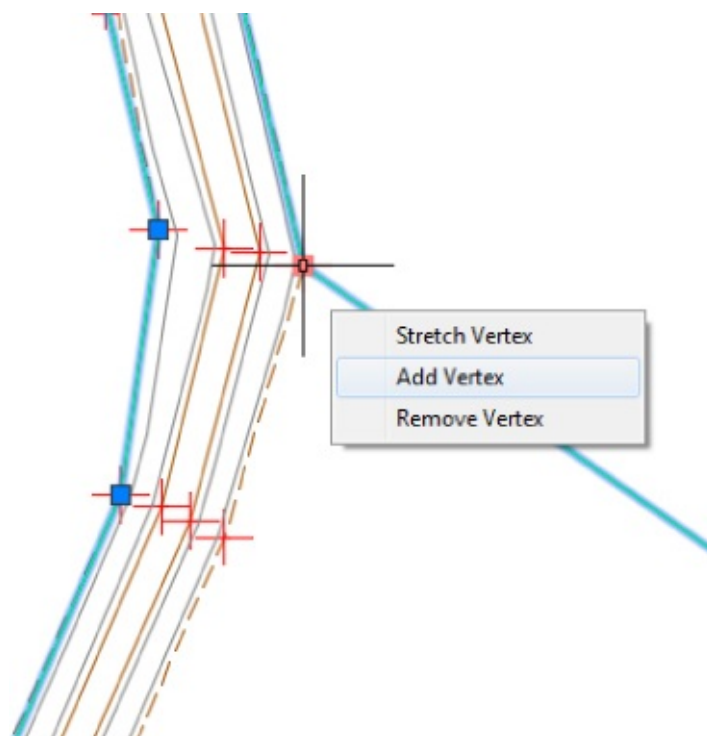

Figure 4.8 Using the grips to adjust the border
11. Working your way around the site clockwise, grip-edit the polyline you created in step 6 to exclude some of the area at the northwest area of the site around the ditch where there are no points. Use the Add Vertex option from the grip menu, as shown in Figure 4.8. Note that this process does not require you to use object snaps. This boundary only needs to be approximate. You will see the surface dynamically update with each grip edit since the surface is set to Rebuild Automatic.